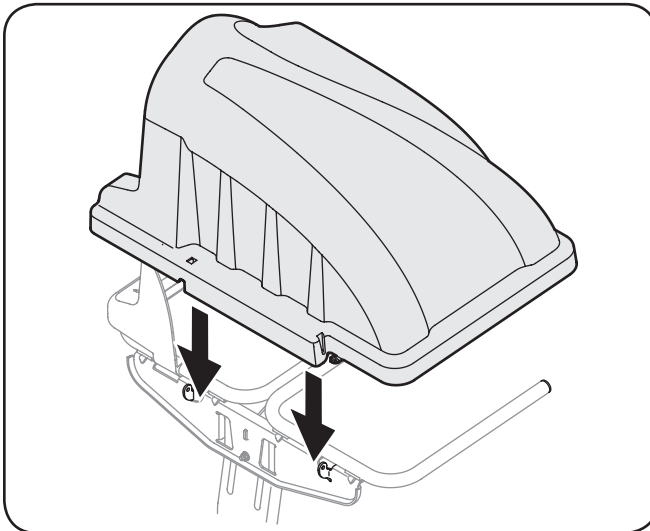

Figure 4-9
5. Install the bagger cover onto the bag support assembly, as seen in Figure 4-9. The plastic cover goes inside of the two mounting tabs.